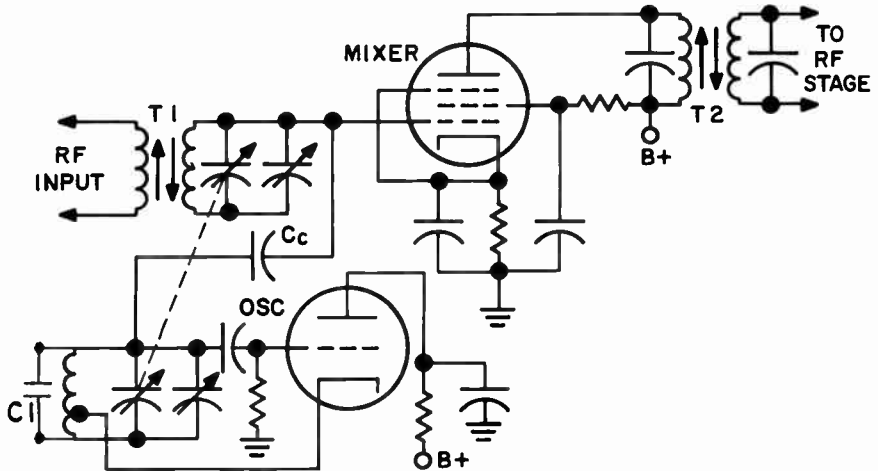

FIG. 16-14. A MIXER WITH ITS LOCAL OSCILLATOR.
**MIXER-OSCILLATOR CIRCUIT.** Fig.16-14 illustrates a typical mixer-oscillator circuit.